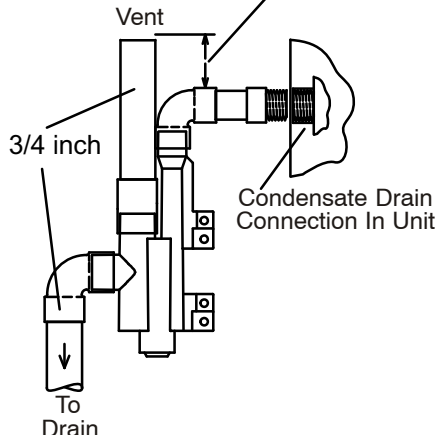

FIGURE 63
This unit is designed for either right- or left-side exit of condensate piping in upflow applications. In horizontal applications, the condensate trap must extend below the unit. An 8" service clearance is required for the condensate trap. Refer to figures 56 and 57 for condensate trap locations. Figure 63 shows trap assembly using 1/2" PVC or 3/4" PVC.
- 3 - Install the cap over the clean out opening at the base of the trap. Secure with clamp. See figure 63.
- 4 - Install drain trap using appropriate PVC fittings, glue all joints. Glue the provided drain trap as shown in figure 63. Route the condensate line to an open drain. *Condensate line must maintain a 1/4" downward slope from the furnace to the drain.*